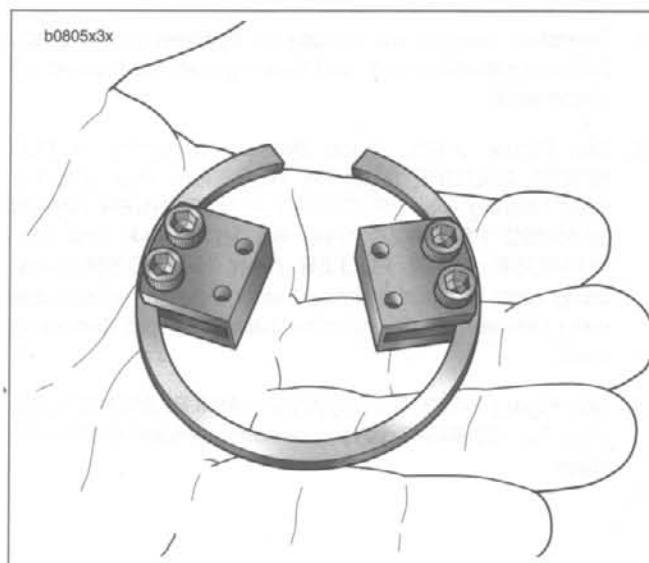

Figure 3-130. Install Claws on Snap Ring
- c. See Figure 3-130. With the gap in the retaining ring being the 12 o'clock position, place the two claws so that the slotted sides engage the inside edge of the retaining ring at the 10 and 2 o'clock positions.